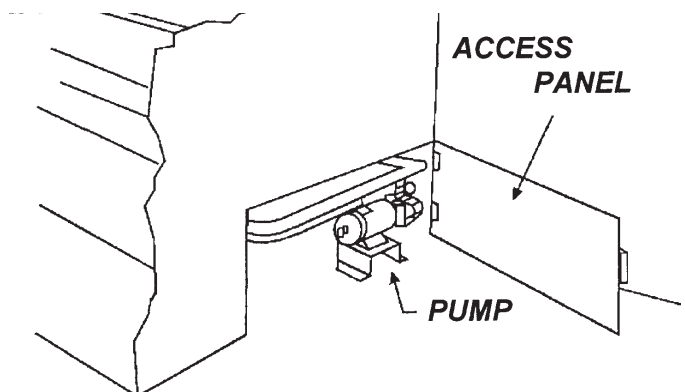

FIGURE 1
1.4 Keep in mind Aqua Glass bathing fixtures are designed for alcove (inset within a wall) or drop in installation. If your specific model does not have a skirt or other form of access to service the motor, pump, electrical connections or plumbing, alternative access plans should be decided at this time. **(Figure 1)**
2.14 Install drywall and leave plumbing access as shown in (*Figure 1.*)
3.11 Install drywall and leave plumbing access as shown in (*Figure 1*).